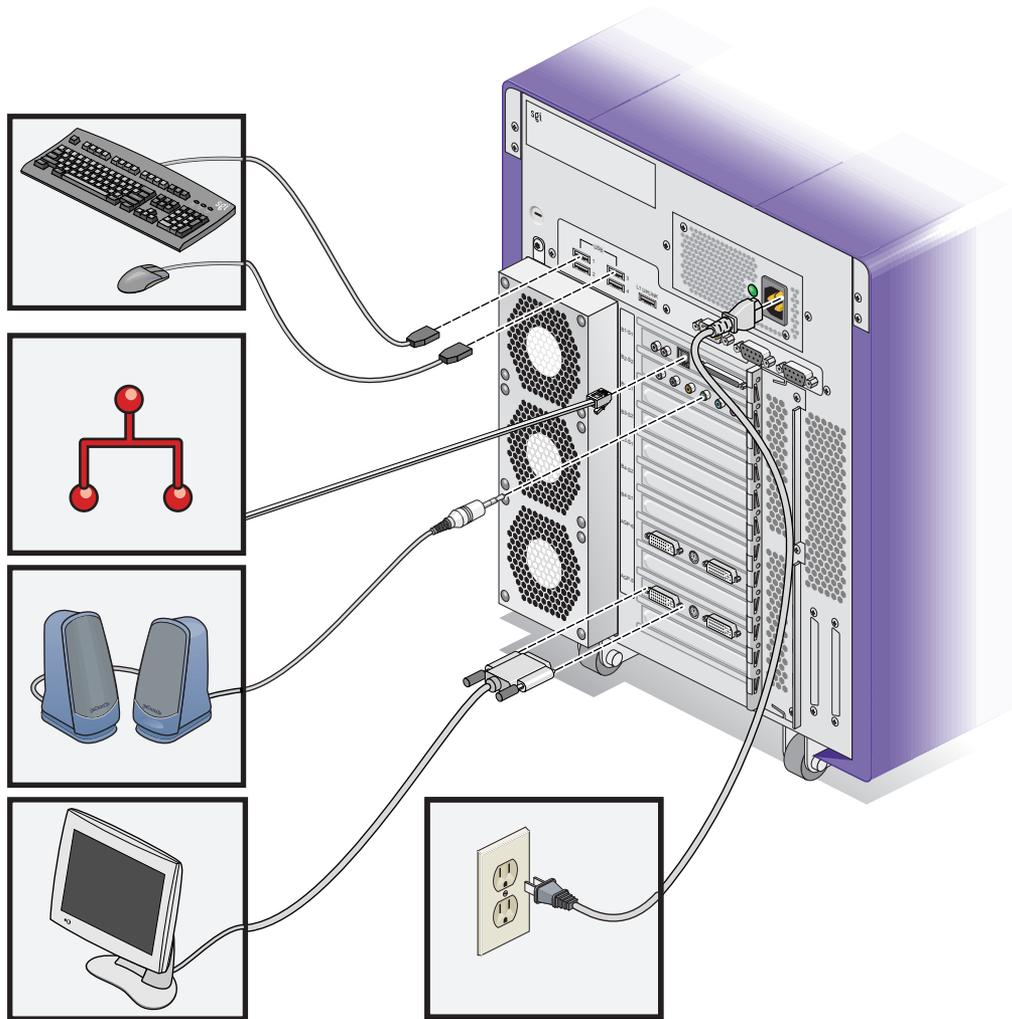

Figure 3-7 Reconnecting the Cables to the System
1. Reconnect all of the system cables to the rear of the enclosure (see Figure 3-7).